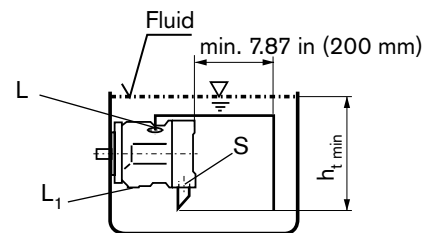

Fig. 3
a) If the min. fluid level is above the top of the pump: plug port " L_1 ", "L" and "S" open; it is recommended to pipe "L" and connect a suction pipe to "S" (see fig. 3).